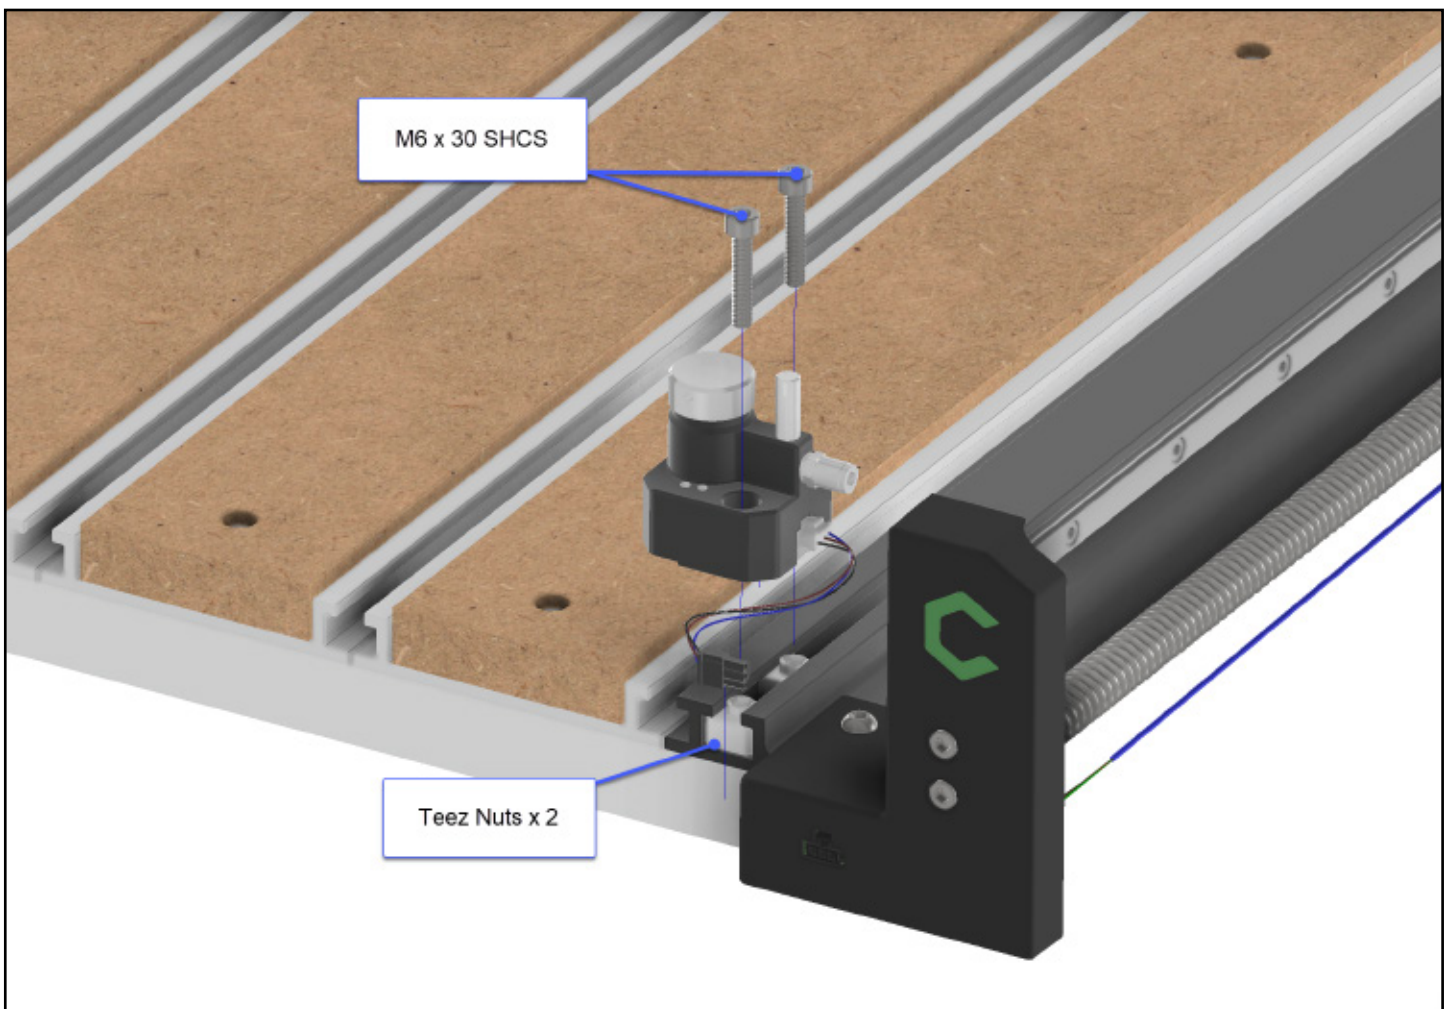

Figure 6-2
2. Slide the two (2) Teez Nuts into the T-track slot integrated into the Y-Right assembly. See **Fig. 6-2**.
6. Plug the short 3-pin BitSetter extension cable into the 3-pin port on the inside edge of the front-right endplate. See **Figs. 6-2** and **6-3**.